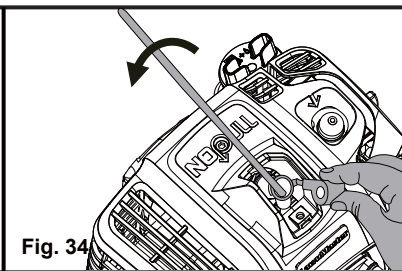

Fig. 34
- Remove the spark plug cap. Fully cover the spark plug using the provided sleeve. Rotate the sleeve counter clockwise to remove the spark plug (Fig. 34).